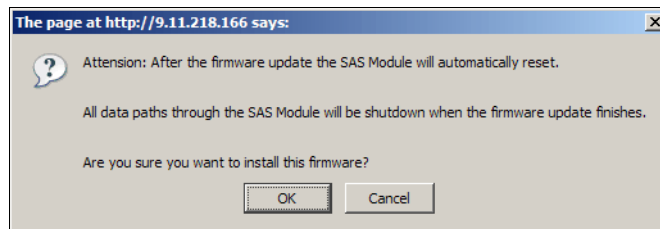

Figure 20-5 SAS Connectivity Module - Installation confirmation
4. Click **Install** to install the new file. An installation confirmation window opens, as shown in Figure 20-5.